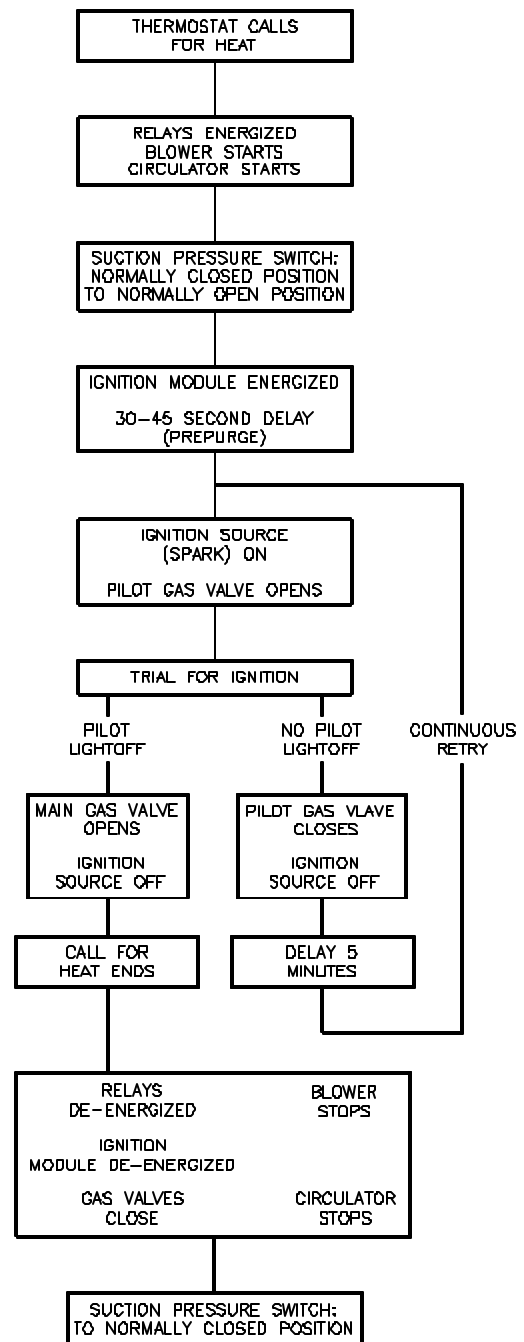

Figure 14: Sequence of Operation
F. Sequence of Operation. See Figure 14. If boiler fails to operate properly, see Troubleshooting Tree on pages 17-18.